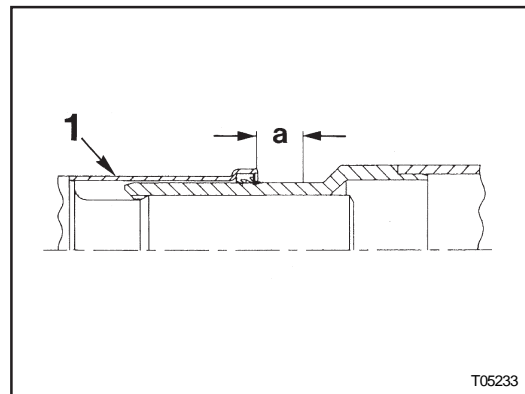

Figure 5: Detail of sliding joint
Visually check the shaft tube for flaked paint, cracks and dents. Check the protective sleeve (1, Figure 5) of the sliding joint for eccentricity.
- The synthetic-resin coated plain section (a, Figure 5) of the sliding yoke, where the protective sleeve seal will slide, must be protected during painting operations.